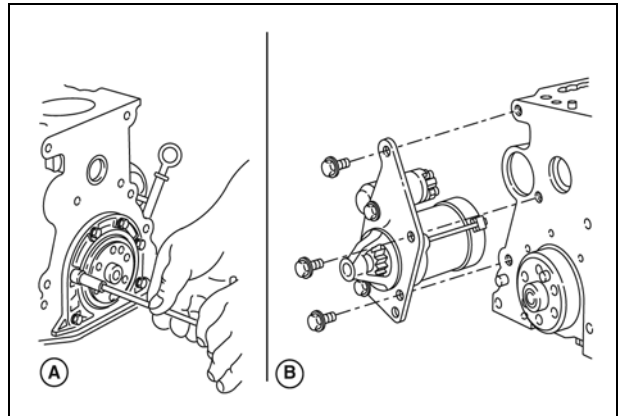

Figure 8
2. Install gasket and rear seal retainer (**A**, Figure 8). Torque screws to values listed in Section 14 - Engine Specifications.